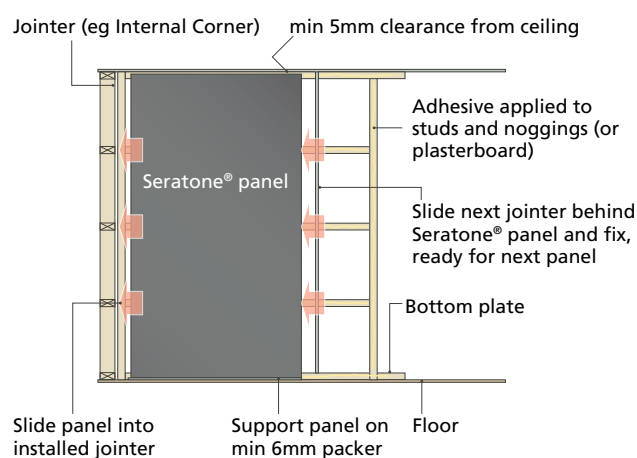

Figure 10. Installing first panel
- Press the panel firmly onto the centre stud/substrate, add jointer to trailing edge, then screw or glue fix trailing jointer into place (refer to Figure 10).